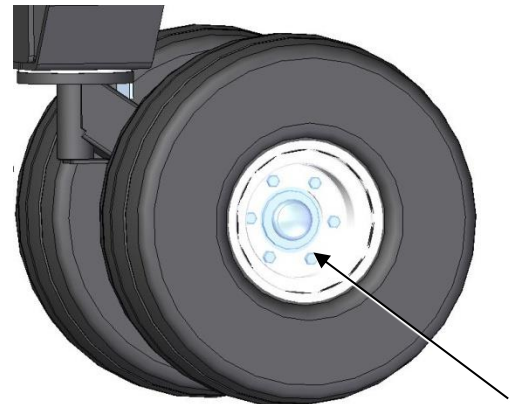

Fig. 6.2
Check wheel lug nut tightness (Figure 6.2) after the first two (2) hours of operation, again after the first ten (10) hours, then periodically.